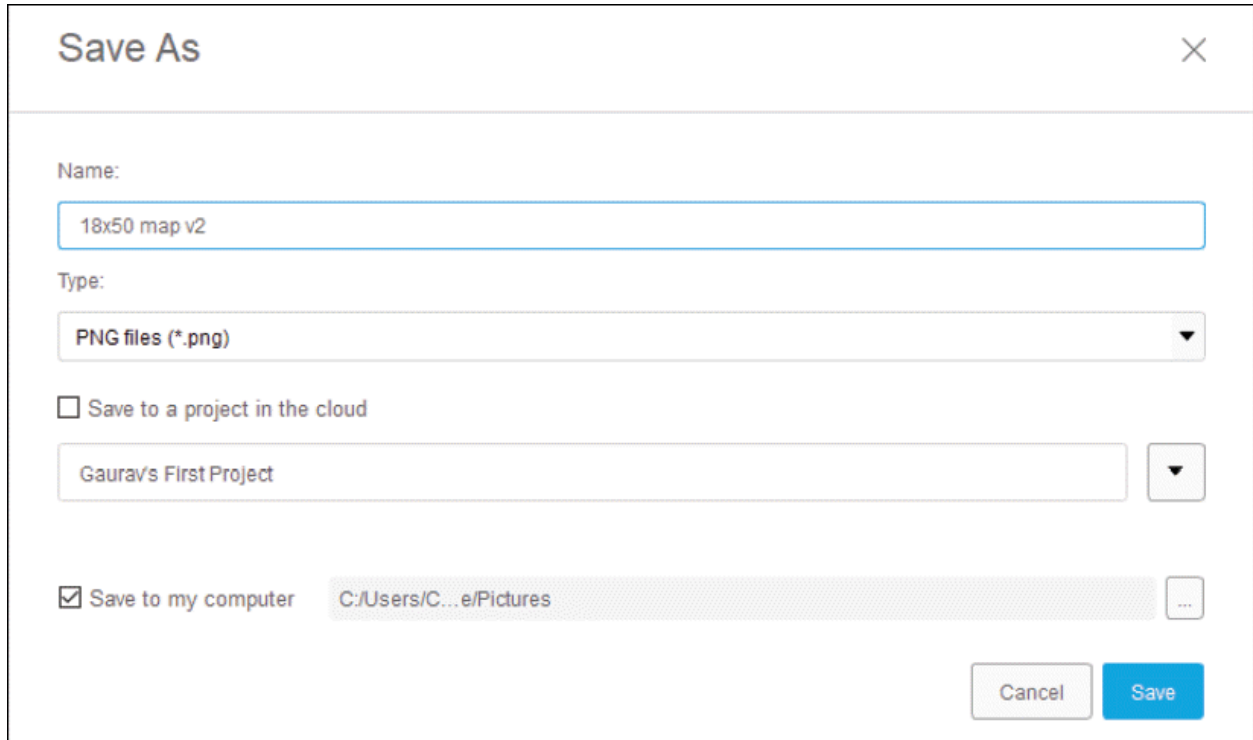

Figure-19. Save As dialog box
- After specifying the parameters, click on the **OK** button from **Image Options** dialog box. The **Save As** dialog box will be displayed; refer to Figure-19.